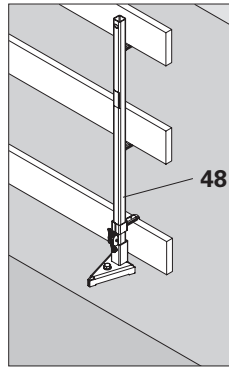

Fig. A2.07
The Post PP (48) is fastened to the cantilevered parapet/bridge. (Fig. A2.07 + A2.08 + A2.10)